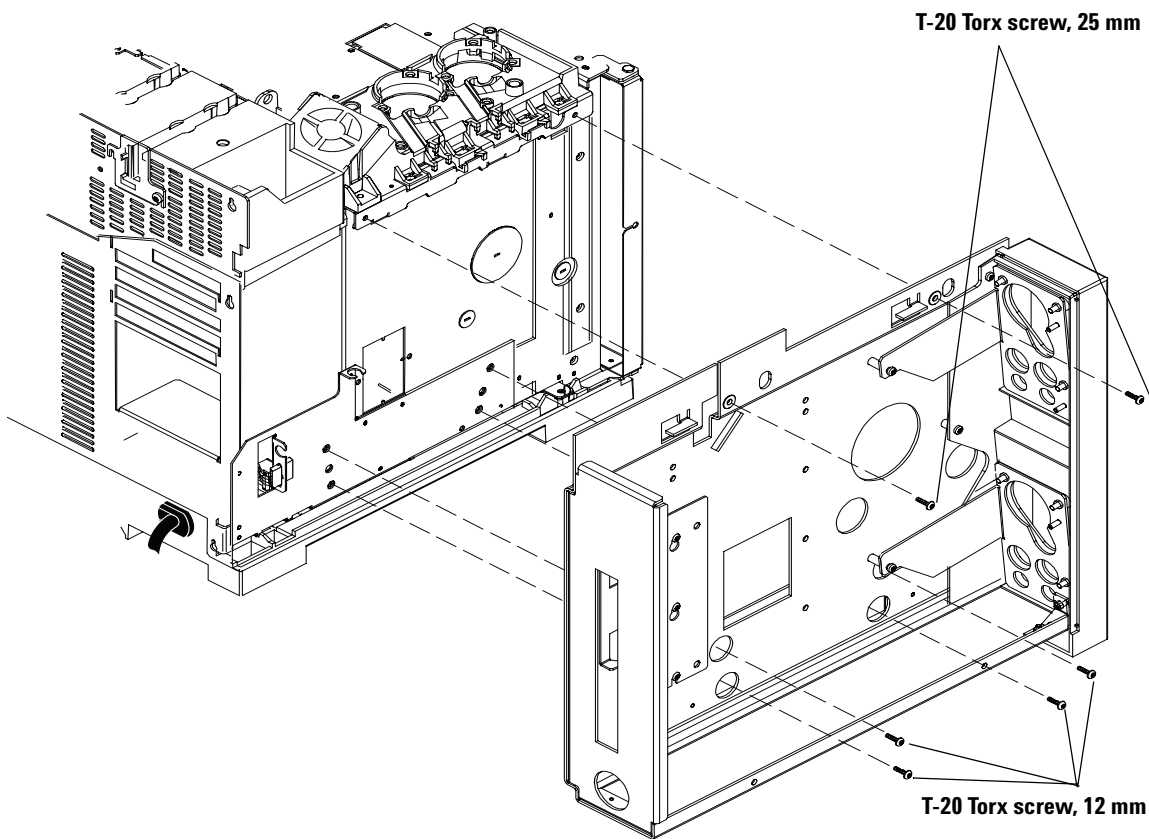

Figure 3 Installing the flow carrier assembly
- 1 Position the flow carrier assembly on the side of the GC. The bracket on the back on the carrier should rest on the bottom edge of the GC. Attach the flow carrier using the screws called out in Figure 3.